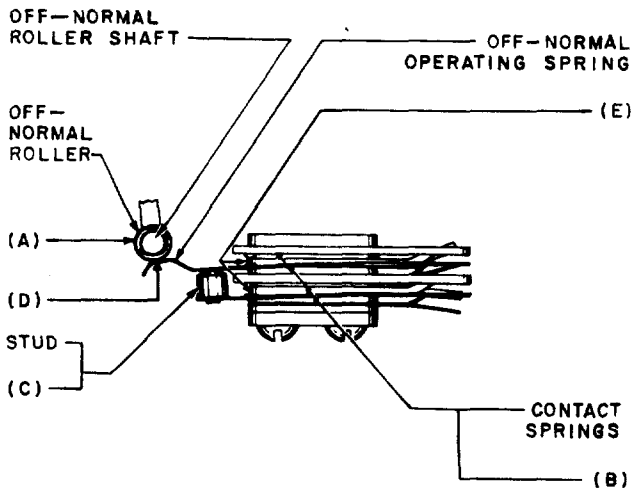

Fig. 13—Off-Normal Operating Spring and Roller Engagement
2.25 Off-Normal Roller Movement: Fig. 13(A)
2.26 Spring Alignment: Fig. 13(B)
2.27 Stud Alignment: Fig. 13(C)—Studs shall be approximately centered with the springs against which they strike.
(b) **204F Selector Only:** Fig. 13(D)—With the wiper assembly in its normal position, the off-normal roller shall rest on the surface of
(a) **All Selectors:** Fig. 13(E)—The separation between any pair of contacts normally open shall be